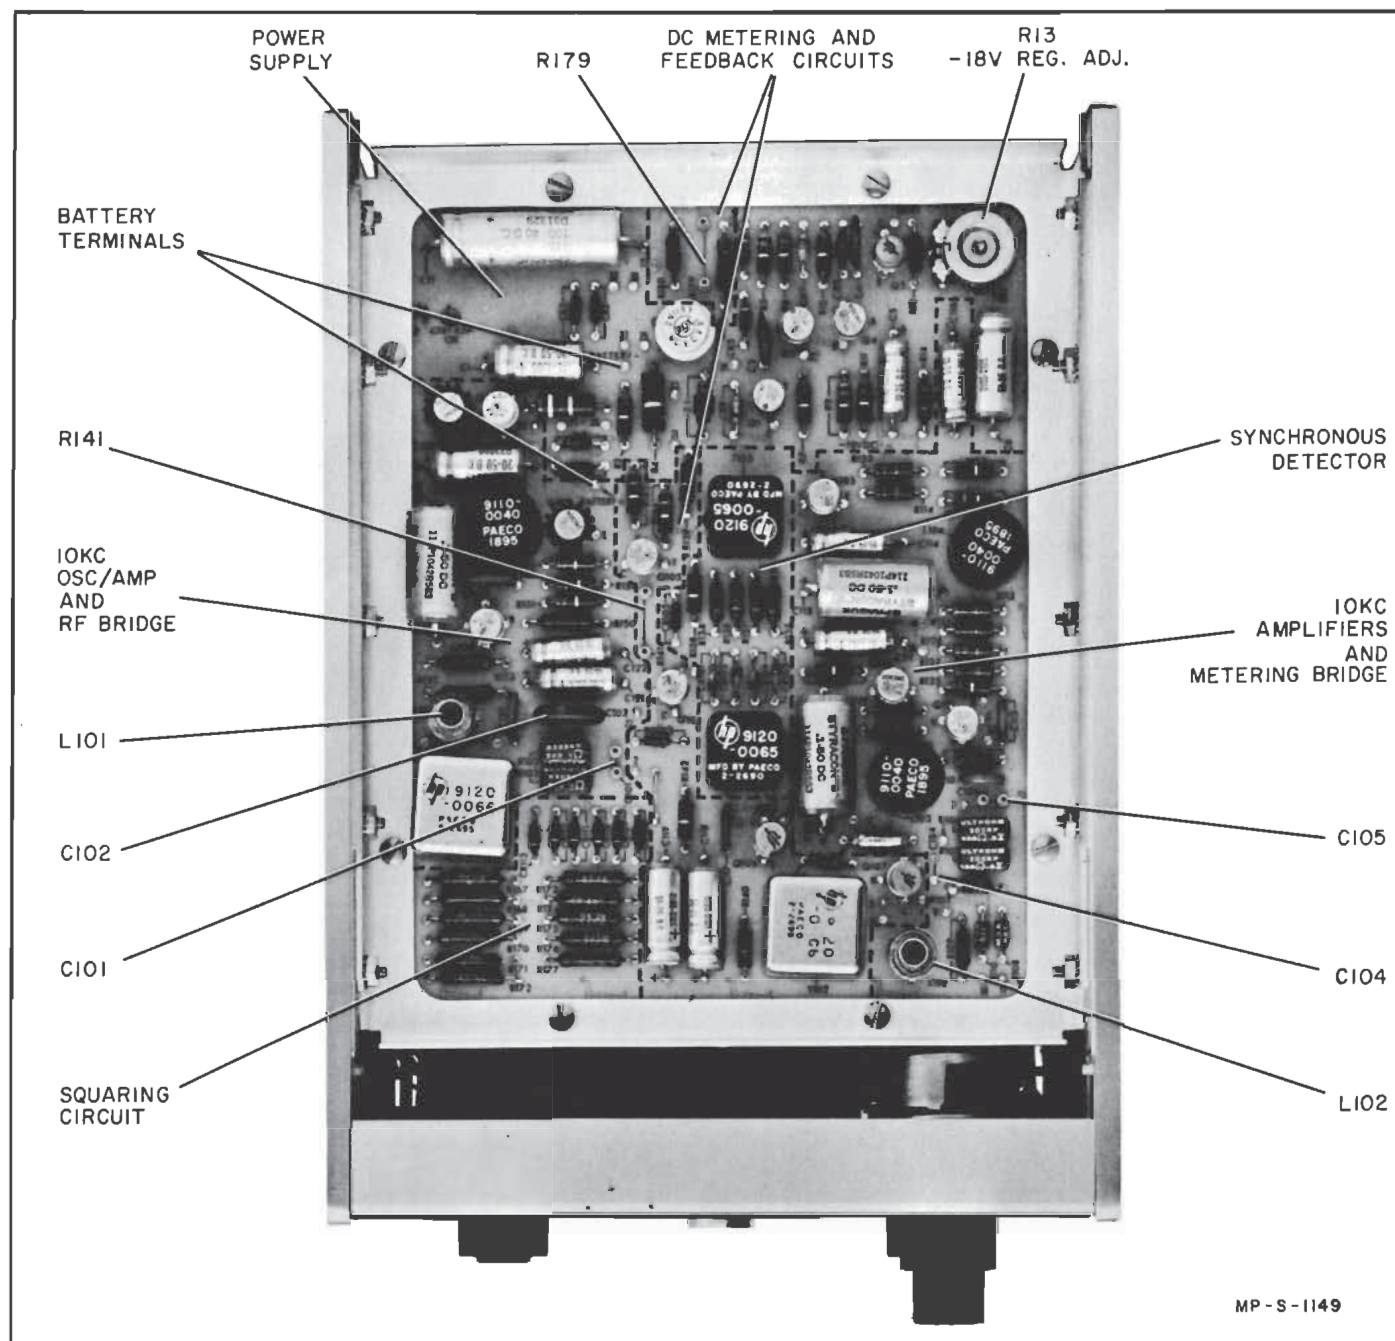

Figure 5-2. Top View
5-18. The dc test point voltages shown on the power supply schematic diagram, with two exceptions, apply to instruments operated from either ac or battery primary power. Voltage limits shown at C1 and C2 apply only to instruments operated from ac primary power. Refer to figure 5-2, Top View, for component location.
- (1) Use a dc voltmeter (see table 5-1) to check the ac voltage limits at the points listed in table 5-3. See figure 5-2, top view, for component location. All voltages are measured with reference to the Model 431B ground.
- (2) Check ripple voltages (ac operation), using an ac voltmeter or oscilloscope, at the points listed in table 5-4. Table 5-1 gives requirements for the voltmeter or oscilloscope.
5-22. Tests of the oscillator-amplifier should be made according to the step sequence in which they appear below. A dc voltmeter, an ac voltmeter or oscilloscope and a frequency counter are needed for the tests (see table 5-1 for test instrument specifications). Figure 5-2, Top View, shows component location.
5-28. A dc voltmeter and oscilloscope are needed for checking the 10 kc amplifier. Table 5-1, Test Equipment, gives equipment requirements. Refer to figure 5-2, Top View, for component location.
5-33. Before performing this procedure refer to paragraphs 5-69 and 5-70 and check values of R141 and R179. The differential amplifier (Q104 and Q105), the feedback current squared generator (Q106), the feedback current generator (Q107), and the squaring circuit comprise the metering and feedback circuit. See figure 5-2, top view, for component location.
5-35. A check of the squaring circuit is advisable if full scale or tracking accuracy of the Model 431B does not meet specifications. The squaring circuit includes CR108 through CR113 and R167 through R177. Figure 5-2, Top View, shows component location.